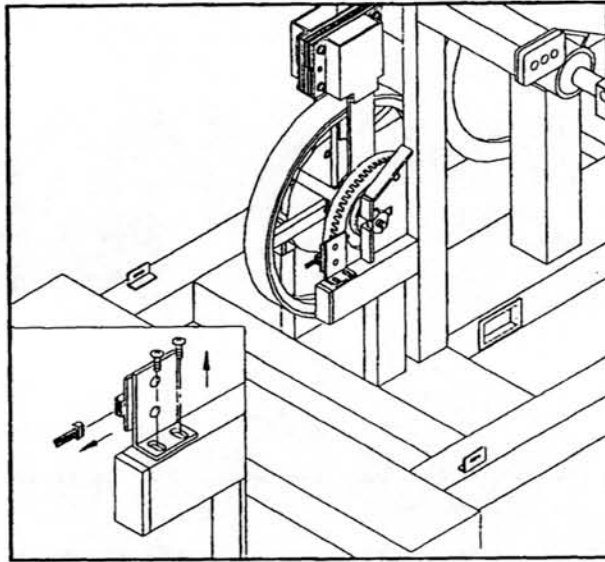

Fig.6-1
2. Unplug the connector on the OPTICAL SWITCH (see Fig.6-1).
3. Unscrew the two screws securing the optical switch and remove it (see the enlarged figure of Fig.6-1).